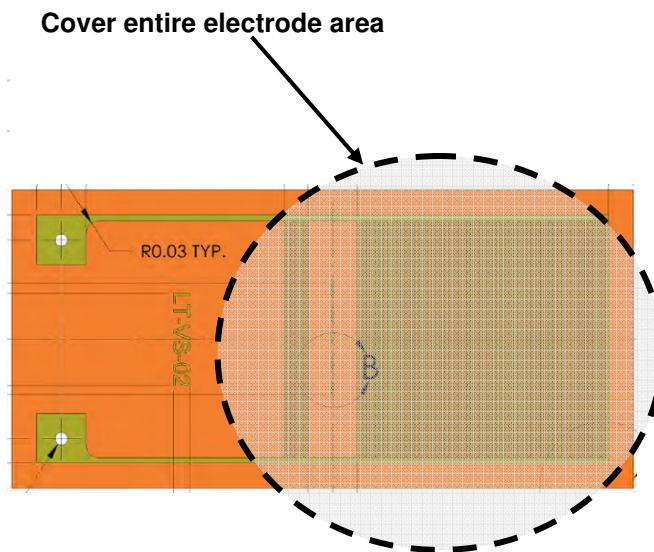

Figure 3
- Do place sample over entire electrode area, as shown in Figure 3